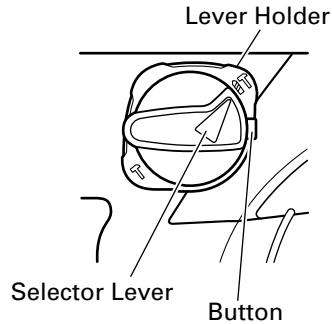

Fig. 7
(1) Switching to "rotation + hammering"
- (b) Align ▲ of the selector lever and  of the lever holder as illustrated in Fig. 7.